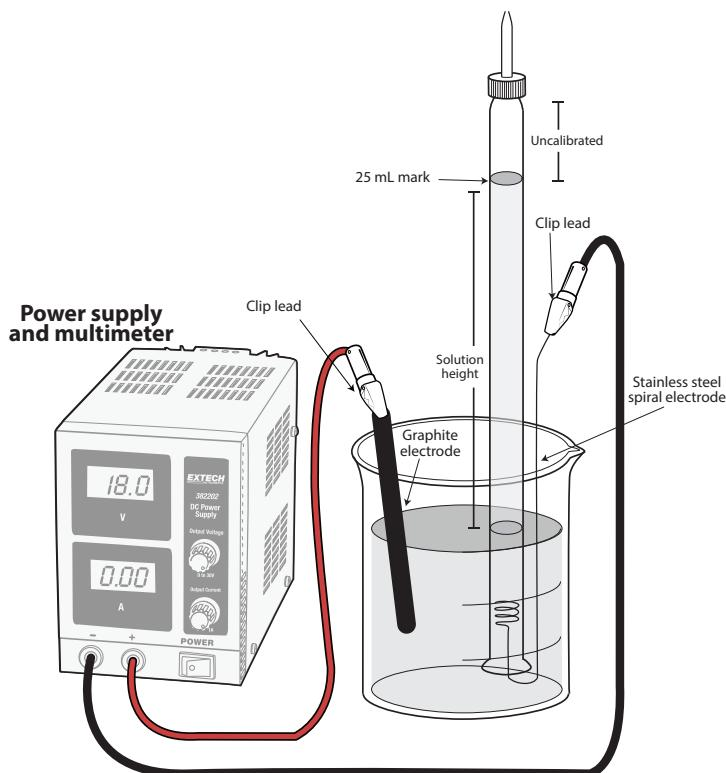

Figure 2. Electrolysis Apparatus
9. You will set up the electrolysis assembly to electrolyze water and collect one of the evolved gases in your buret. Figure 2 shows selected parts of the assembled apparatus as it should appear at the instant the electrolysis begins.
- Connect the (–) terminal from the multimeter to the spiral electrode. Connect the (+) terminal from the multimeter to the graphite electrode. Be sure you are collecting the hydrogen gas at the spiral electrode! Do NOT put the graphite electrode into the solution in the beaker just yet. Refer to Figure 2.
- Put the attached graphite electrode into the beaker as shown in Figure 2. Now adjust the current knob to get a reading of about 0.2 Amps.